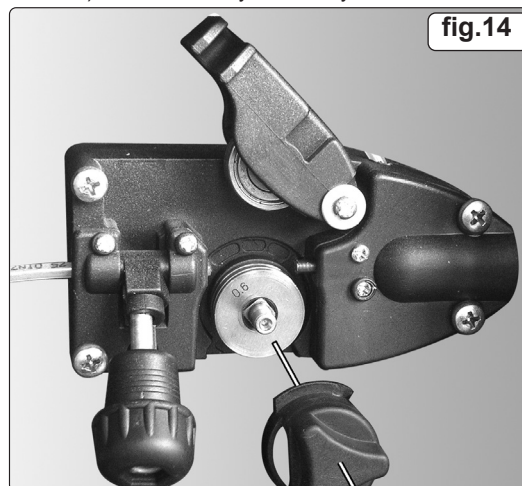

fig.14
- 9.5.1. There are two grooves on the feed roller, 0.6mm and 0.8mm. Always have the groove that is being used on the outside of the roller (nearest to you). To turn the feed roller first loosen the wire tension knob and move it into its down position (see fig.13.1) then move the tensioning roller assembly to its up position (see fig.13.2). Take hold of the triangular knob on the roller retainer and rotate it 90° anticlockwise to release it as shown in fig.13.3. Now pull the roller retainer off the drive spindle to reveal the roller as shown in fig.14.